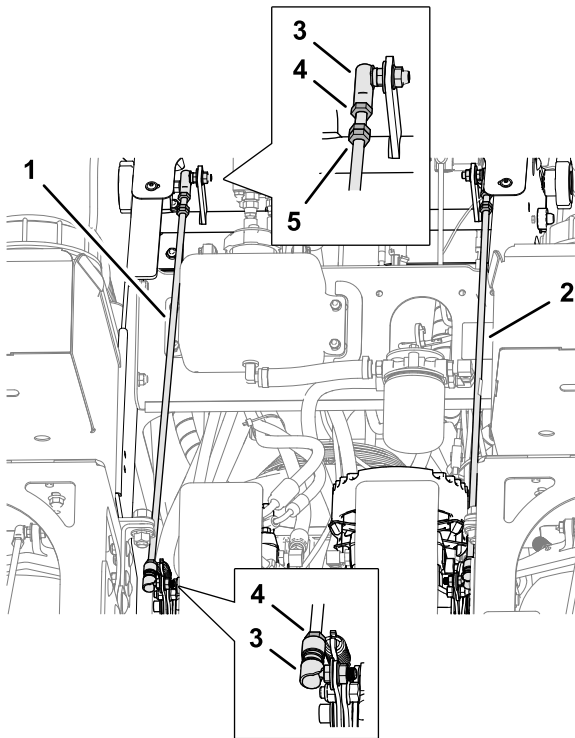

Figure 99
3. Loosen the 2 jam nuts that secure the motion-control rod at the upper and lower ball joints (Figure 99).
5. Tighten the jam nuts (Figure 99).